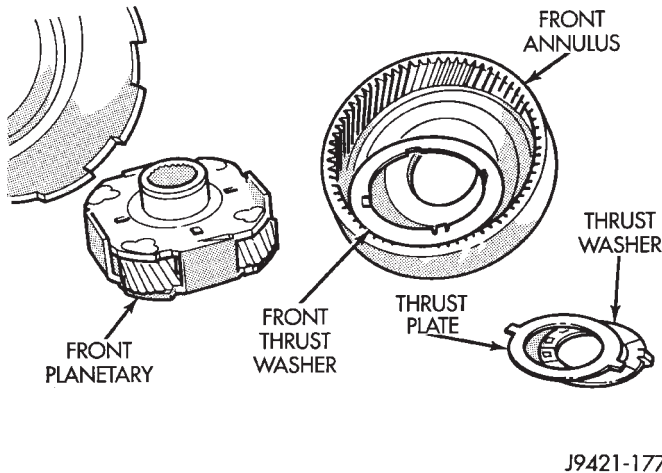

Fig. 77 Front Planetary And Annulus Gear Disassembly
(4) Remove tabbed thrust washer and tabbed thrust plate from hub of front annulus (Fig. 77).
(5) Separate front annulus and planetary gears (Fig. 77).
(6) Remove front planetary gear front thrust washer from annulus gear hub (Fig. 77).